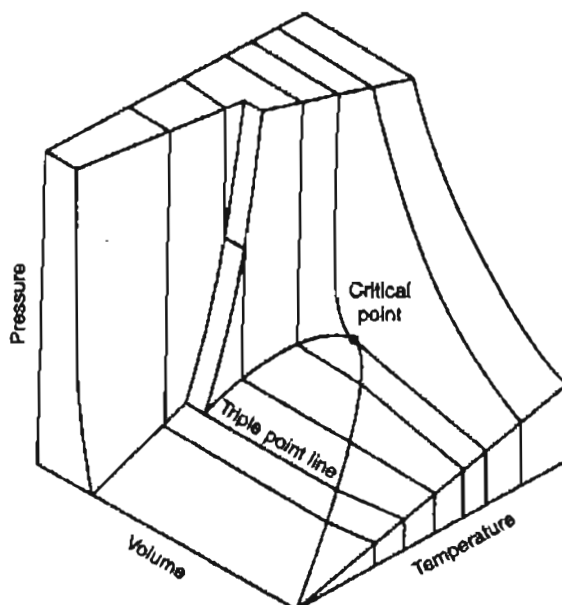

Figure SAT16.2P6
6. Make a large copy of Figure SAT16.2P6, a substance that contracts on freezing like most